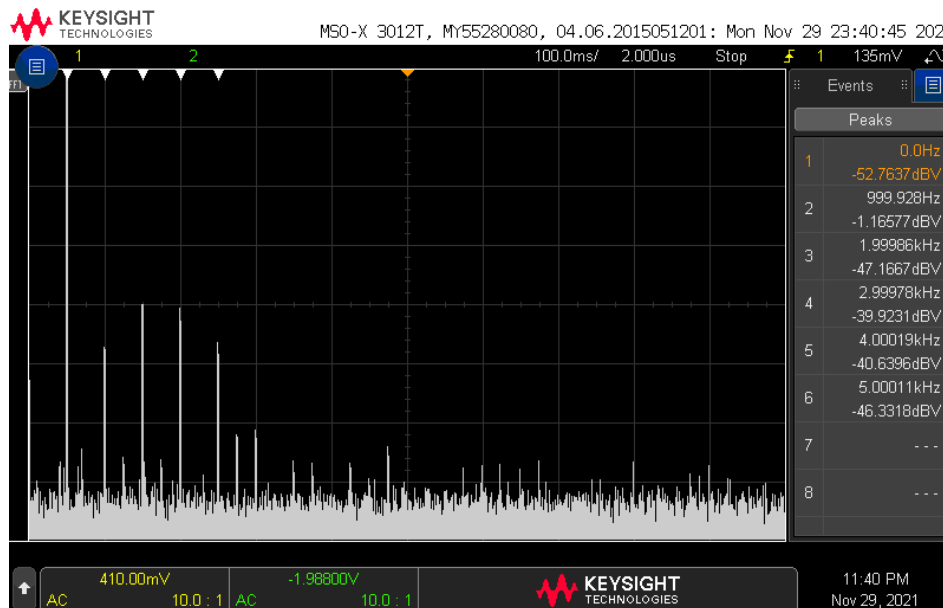

Figure 2: An oscilloscope measuring the FFT of a 1kHz sine wave using the Search function.
Figure 2 shows an example FFT from the Audio board output with a 1kHz sine wave input. I used the Search feature from last week's lab to measure the height of each harmonic shown in the Peaks window on the right side of the screen.
We want to record the harmonics of the input sine wave from Figure 2 as the values in the dB column of Table 1. When you do this you should:
- Ignore any of the Peak frequencies in Figure 2 which are not a close integer multiple of the input frequency.
The values in the dBc column of Table 1 are computed for as the difference in decibels between the harmonic to the carrier. So the dBc value for the second harmonic at 2kHz is $-47\text{dB} - (-1.2\text{dB}) = -46\text{dB}$ (round to 2-significant figures). Using Equation 5 we can convert this into the ratio of powers as $10^{-46/10} = 2.6 \times 10^{-5}$. Use the information in Figure 2 to complete the remaining rows of Table 1.
Table 1: The height of the fundamental and harmonics in Figure 2 transformed into the ratio of power of the individual harmonic to the carrier.
Finally, you need to use Equation 7 to convert the values in the $10^{\text{dBc}/10}$ column to THD. This process is started in the equation below, complete the computation and find the THD for the FFT shown in Figure 2.